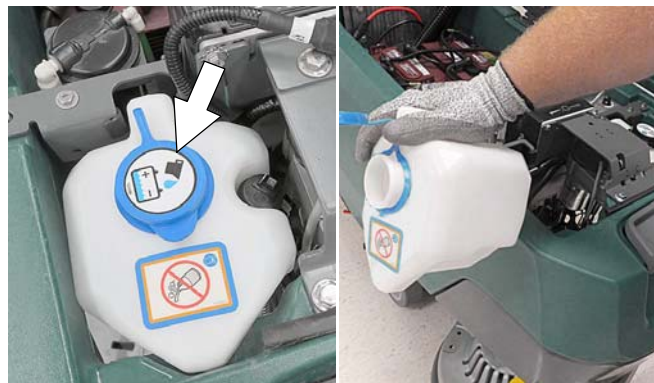

FIG. 100
5. Models equipped with optional automatic battery watering tank - Lift tank from machine and empty the water from tank (Figure 100).